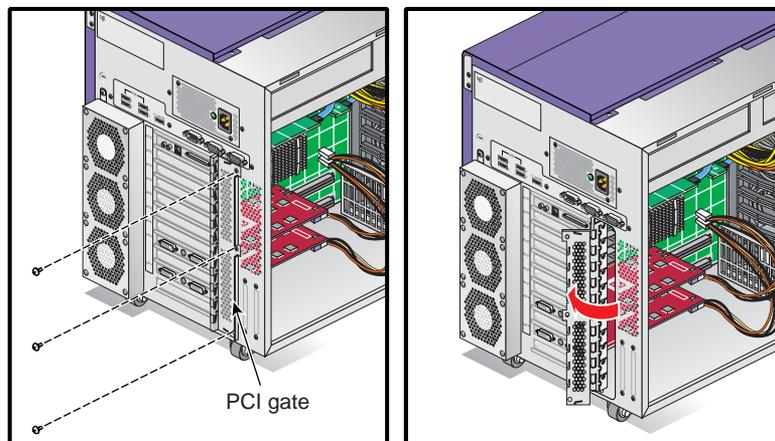

Figure 3-26 Opening the PCI Gate
1. Remove the three screws that secure the PCI gate to the enclosure; then open the PCI gate (see Figure 3-26).